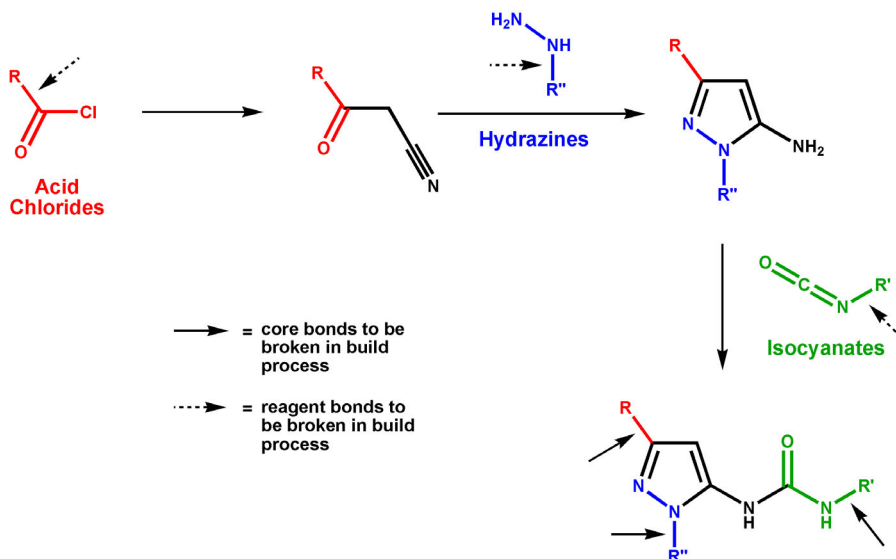

Figure 3.1. Synthetic route to pyrazole library.
For example, if you were interested in generating a focused pyrazole library in an attempt to identify inhibitors of p38 MAP kinase, your synthetic chemists might suggest the approach described in Figure 3.1.
Once the synthetic approach has been determined, it will be apparent which types of reagents will be required for the library synthesis. For example, in the pyrazole library described in Figure 3.1, the library will be generated by the combination of acid chlorides, hydrazines, and isocyanates.
- The bond that is replaced in the core-containing molecule and in the reagent when the side chain is added must be a single bond. In the pyrazole example in Figure 3.1, the bond that is replaced in the isocyanate is the single C–R' bond. The C=N bond in the isocyanate could not be chosen because it is a double bond, even though the corresponding bond in the core-containing molecule is a single bond.